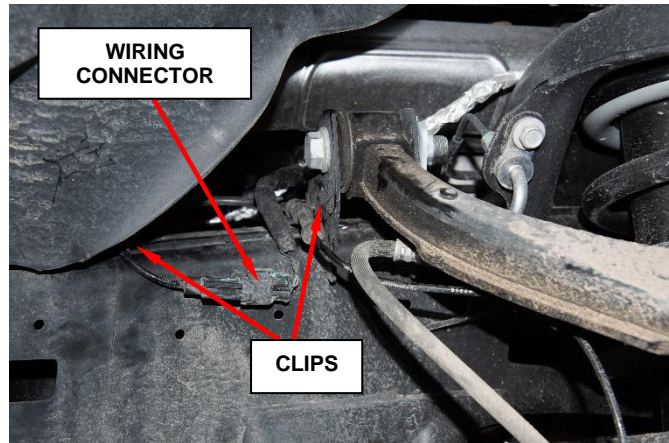

Figure 4 – Wiring Connector
6. Disconnect the wheel speed sensor wiring connector (Figure 4).